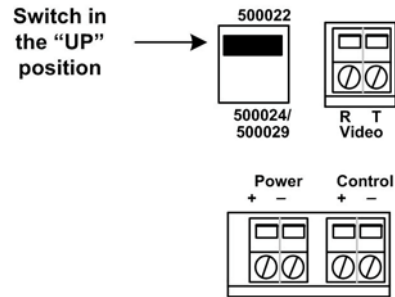

**Figure 12: Camera connection**
3. Connect one Cat5 cable from each camera to one of the modular RJ45 ports on the front of the Passive CCTV Hub (fig 12). Please ensure that EIA 568 wiring and straight-through polarity is respected between the CCTV balun and the rack. The use of other Cat5 connection hardware such as patch panels and 110 blocks may be used.